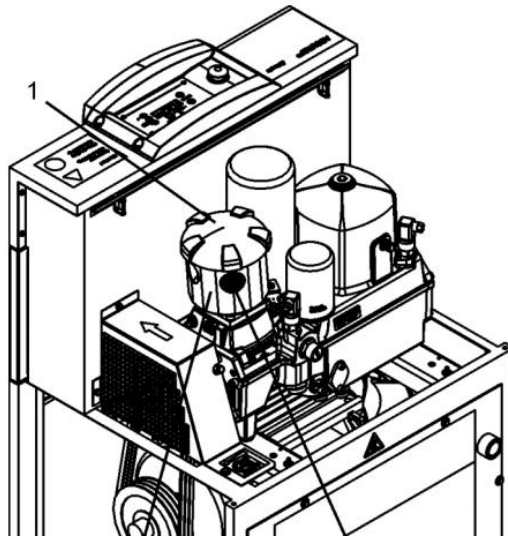

FIGURE 7-1 Compressor Air Filter
1. Loosen and remove the fastening band (2) and remove the filter element (1), see Figure 7-1 for details
2. Visually inspect the filter element (1). Replace it if: